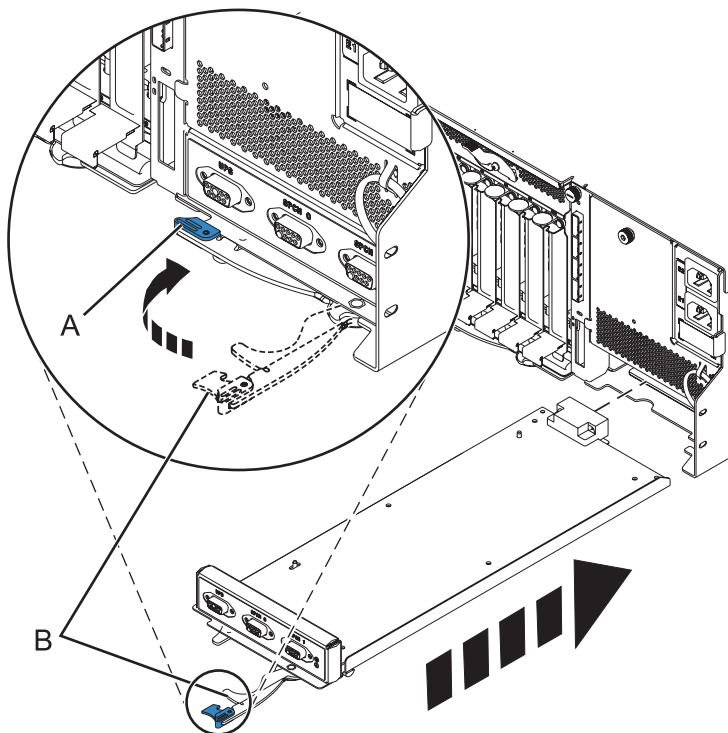

Figure 47. Replacing the enclosure management controller
- Carefully slide the enclosure management controller into the system and close the latch (A) as shown in Figure 47.